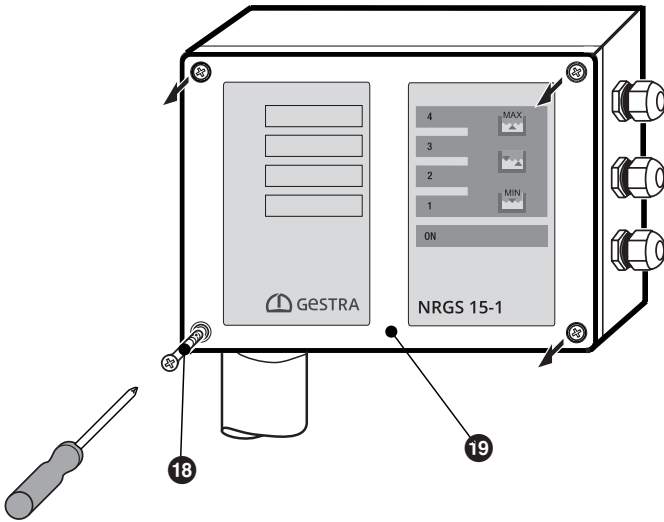

Fig. 4
2. Use a waterproof marker to enter the set function for each electrode rod in the boxes provided on the cover (see **Fig. 4**).